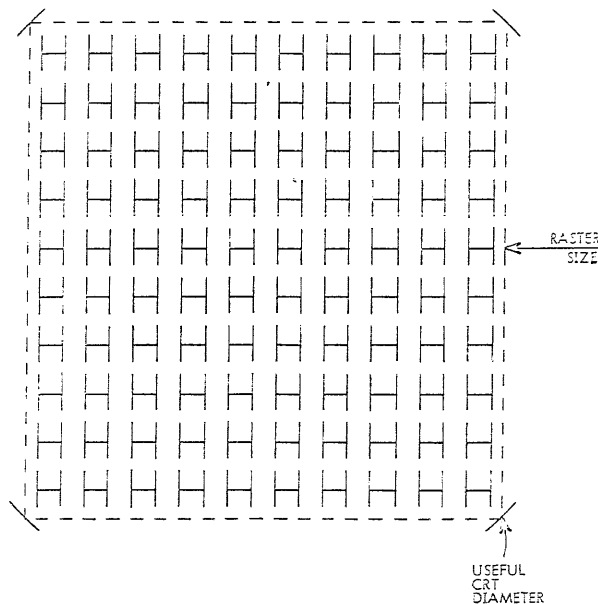

Figure 4-1. Test Pattern 1
Test pattern 1 (figure 4-1) is recommended for display equipment maintenance. It provides a means of ascertaining that the equipment is functioning properly.
Program a test pattern (figure 4-1) to determine if the linearity of either the X or the Y axis varies.
Program a display to correspond to test pattern 1 (figure 4-1). Adjust the X trimmer located on the front of the deflection amplifier (2 of figure 4-3) to align the Hs in the lower rows directly under the Hs in the upper rows.
1. Display test pattern 1 (figure 4-1).
1. Generate test pattern 1 (figure 4-1) or a convenient test pattern.